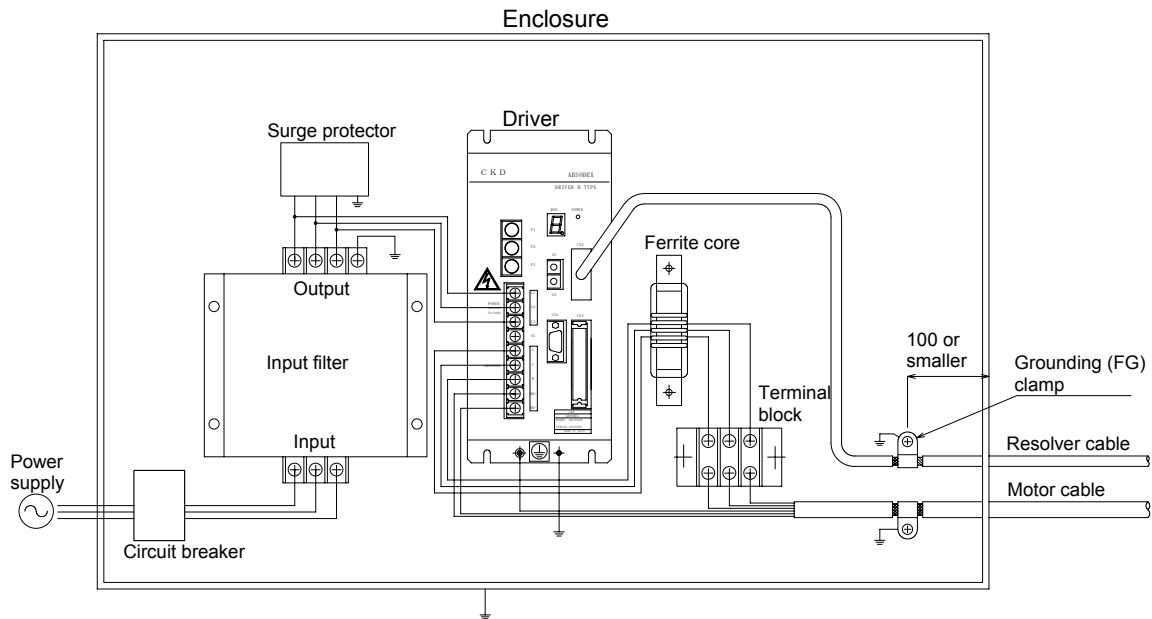
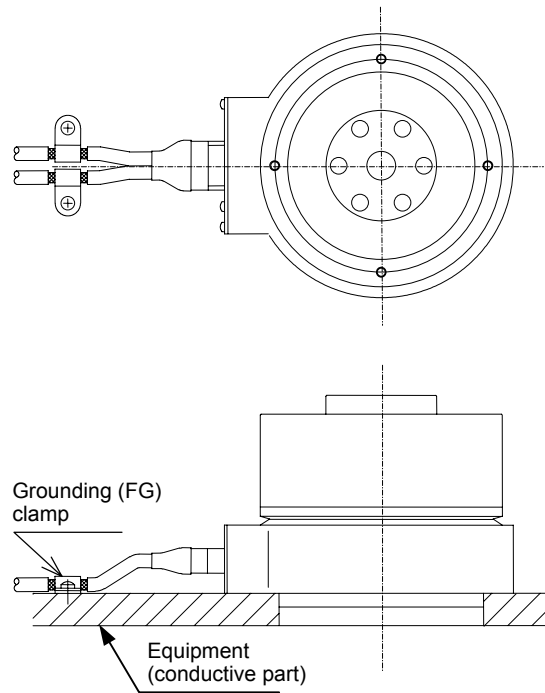

Fig. 13.2 Installation of Driver (in case of 3 phases)
Fig. 13.5 Grounding Example on Actuator Side
Figs. 13.2 and 13.3 indicate installation methods. Install the designated filter and ferrite core in the inputs and outputs of the driver and build in a conductive enclosure. Strip the motor and resolver cables of sheath and use a grounding (FG) clamp or the like to make the shield into contact with the enclosure. Ground the actuator as shown in Fig. 13.5. Parts used for installation are shown in Table 13.4.
- On the actuator side, strip the motor and resolver cables of the sheath as close to the actuator as possible, and ground the shield. (Refer to Fig. 13.5.)